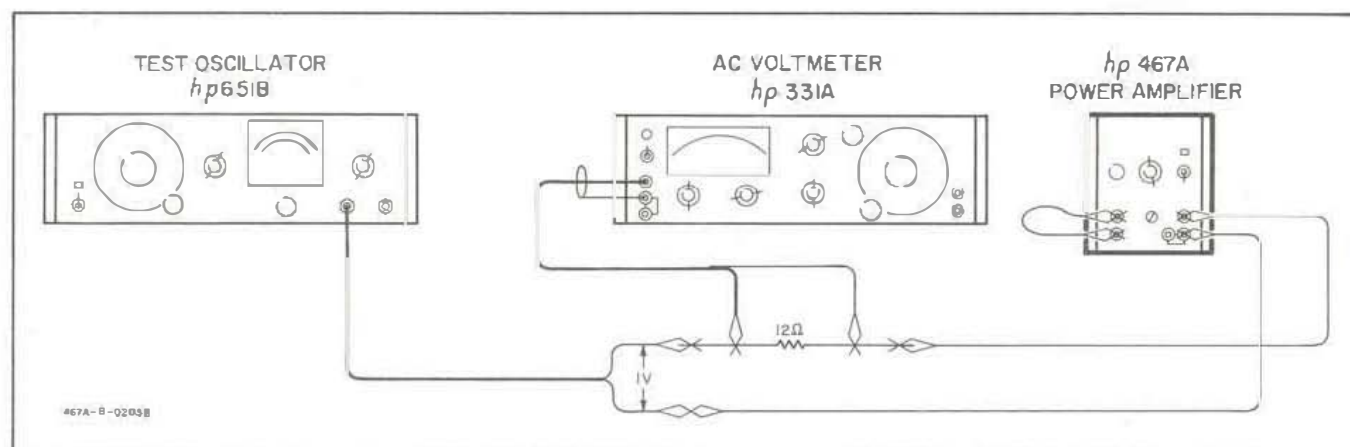

Figure 5-4. Output Impedance Check
- a. Figure 5-4 describes the test arrangement recommended. An AC Voltmeter (-hp- Model 331A), a Test Oscillator (-hp- Model 651B), and a 12 ohm $\pm 1\%$, 1/2 watt resistor (-hp- Part No. 0811-0297) will be required.
- b. Connect the Model 467A as shown in Figure 5-4.